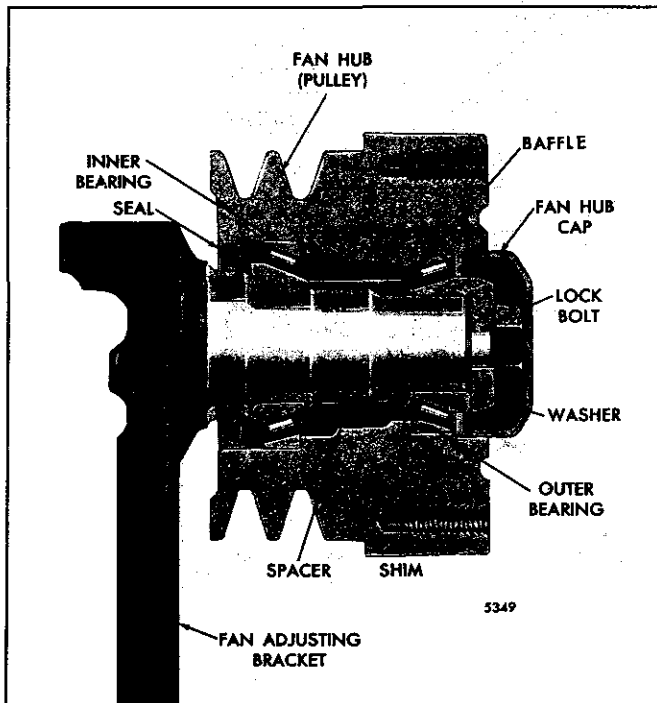

Fig. 5 - Shaft Type Fan Hub Assembly (6V Engine)
1. Refer to Fig. 5 and remove the fan hub cap.